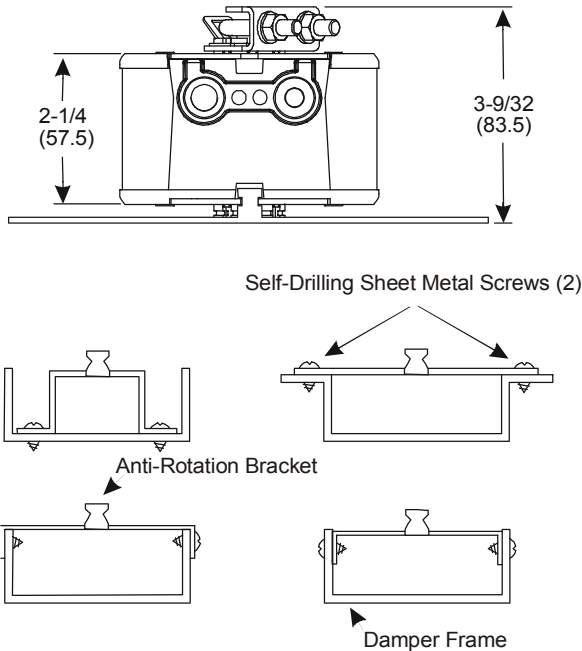

Figure 6: Anti-Rotation Mounting Bracket Positions
1. Bend or cut the anti-rotation bracket to fit the damper frame or duct as illustrated in Figure 6.
5. Slide the actuator onto the damper shaft, and position the anti-rotation bracket tab into the slot at the bottom of the actuator as illustrated in Figure 6. (Next Page)